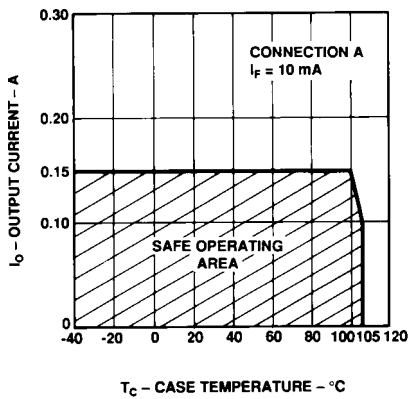
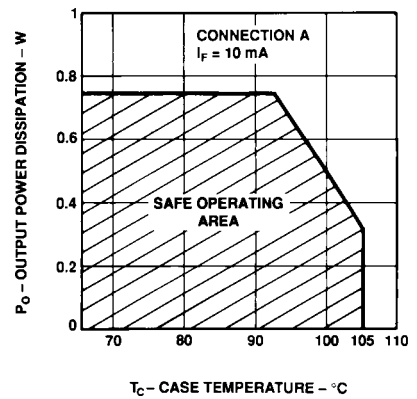

Figure 3B. Maximum Average Output Current Rating vs. Case Temperature.
Figure 4. Output Power Derating vs. Case Temperature.
- For derating, see Figure 4. The output power  $P_O$  derating curve is obtained when the part is handling the maximum average output current  $I_O$  as shown in Figure 3.
Derating curves are shown in Figures 3 and 4. Figure 3 specifies the maximum average output current allowable for a given ambient or case temperature. Figure 4 specifies the output power dissipation allowable for a given case temperature. Above a case temperature of  $93^\circ\text{C}$ , the maximum allowable output current and power dissipation are
related by the expression  $R_{SS} = P_O(\text{max})/(I_O(\text{max}))^2$  from which  $R_{SS}$  can be calculated. Staying within the safe area assures that the steady state junction temperatures remain less than  $125^\circ\text{C}$ . As an example, for a case temperature of  $100^\circ\text{C}$ , Figure 4 shows that the output power dissipation should be limited to less than 0.5 watts. A check with Figure 3B shows that the output current should be limited to less than 150 mA. This yields an  $R_{SS}$  of  $22 \Omega$ .